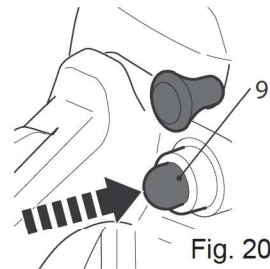

Fig. 20
Press the primer (9) 6 times when starting the product with a cold engine (Fig. 20). Do not press the primer for warm starts.